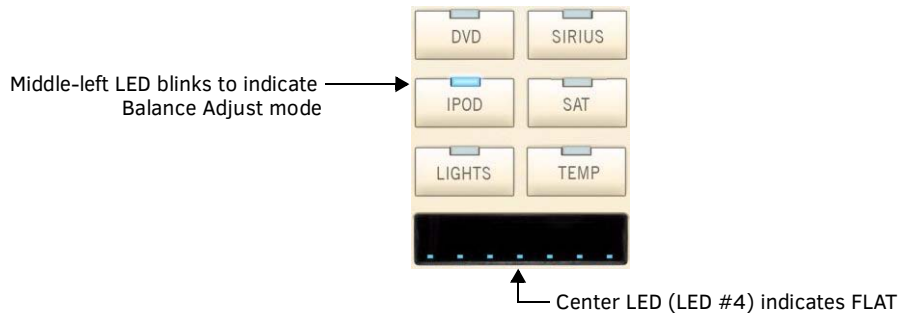

FIG. 48 Balance Adjust Mode
- The **middle-row left** LED will blink to indicate that Balance Adjust mode is active (FIG. 48).